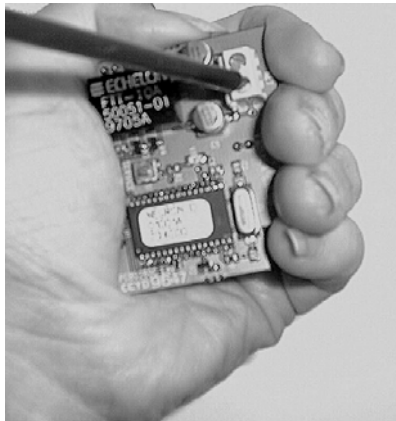

Figure 1: Connecting the wires to the GML20 module
2. Pull the two output wires through the hole at the bottom of the housing. When connecting them to the screw terminal marked 'NET' of the GML20, hold the module in one hand and make connections with the other (see Figure 1). The polarity can be freely selected. Note that as all NDIR transmitters consume power, an additional power supply is always needed. Check that the nominal 24 V supply is connected between terminals + and - on the transmitter's mother board. Analogue output signals can be used simultaneously with the LonWorks® module.